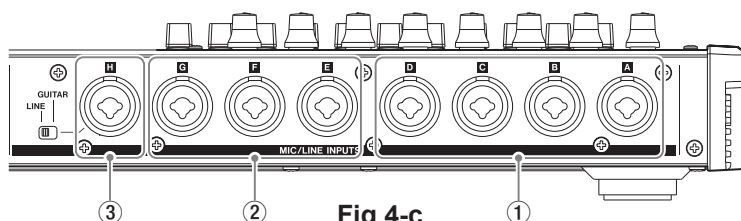

Fig 4-c
3-3-1 Confirm that **"PHANTOM X-X OFF"** appears on the screen (Fig. 4-b-①).